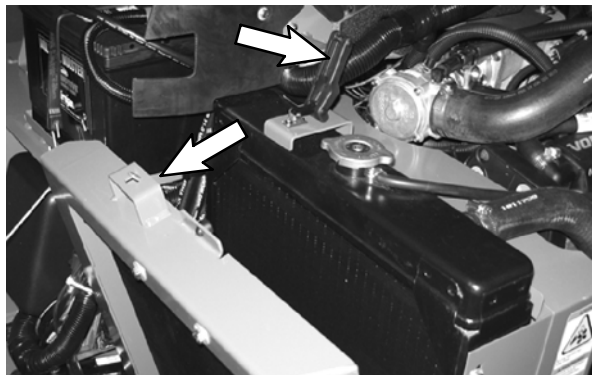

FIG. 1
5. Unhook the latch from the hydraulic fluid cooler bracket and pull the hydraulic fluid cooler forward. Refer to Fig. 1.